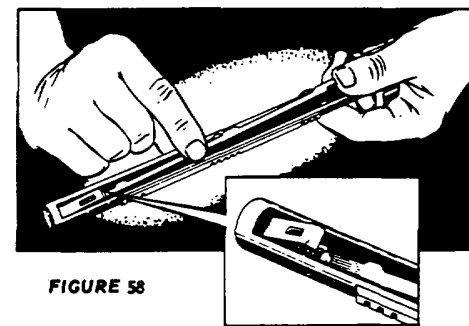

FIGURE 58
- (1) When stone and shoes are worn it may be necessary to use a wedge shim (available for each SL mandrel above .720") to reach maximum range of the honing unit.
- (2) To install shim, remove stone and wedge and clean stone slot in mandrel. With lugs of shim toward wedge side of stone slot, insert front end of shim (Figure 58) under rivet head in front end of mandrel. Push shim forward until it will lie flat in bottom of stone slot. Replace wedge and stone.